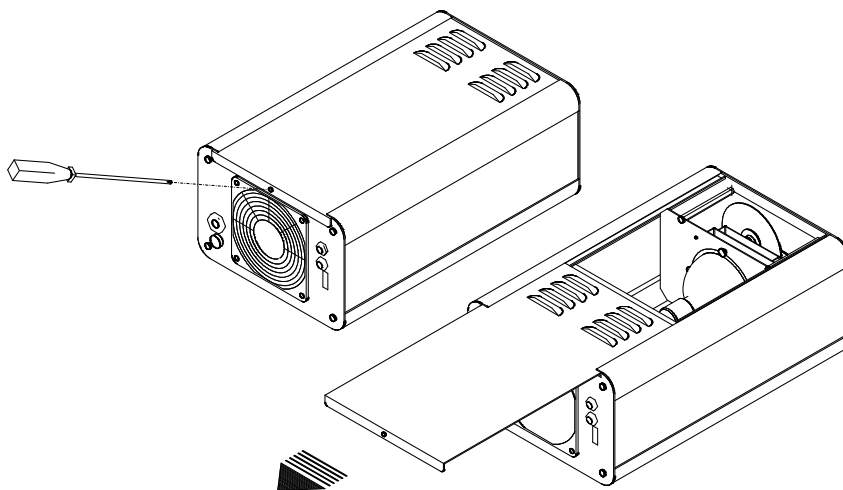

Fig 1.
1. Open the top cover. see Fig. 1